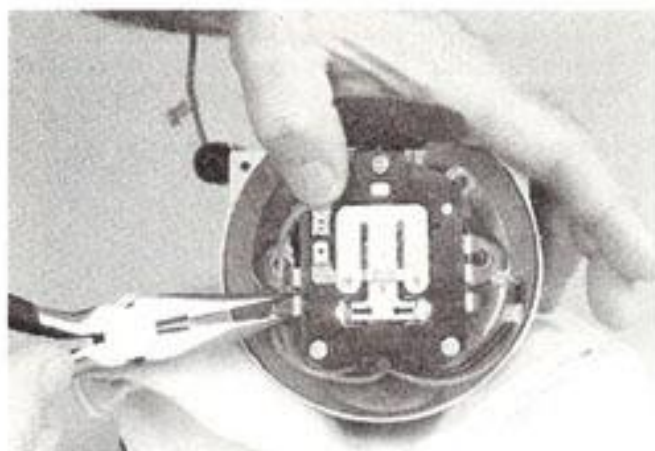
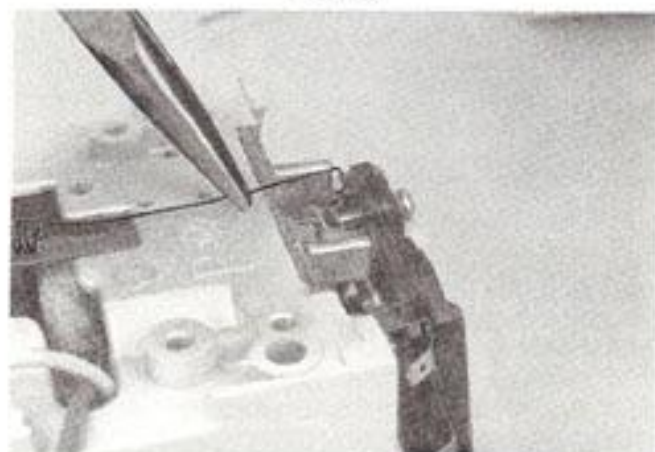
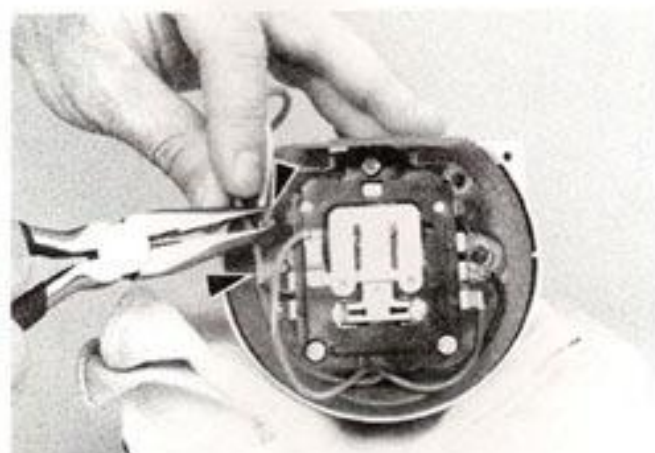
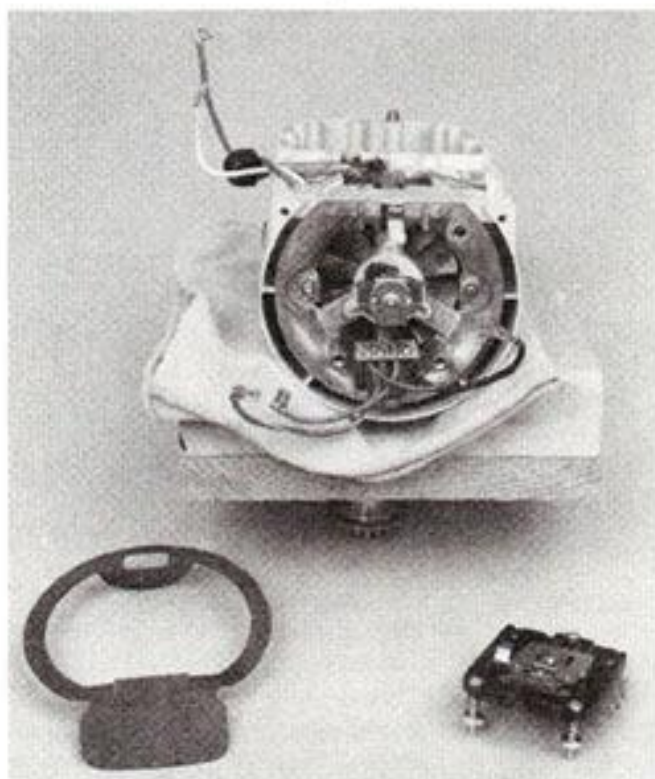

Fig. 16
Fig. 17
Fig. 15
Fig. 18
- A. Start disassembly of the control unit by removing the flag terminals from the stator (Fig. 15). Remove the end seal and disconnect the terminals from the phase control (Fig. 16). Unhook the control board spring at the bottom of the control board (Fig. 17). Unlock the two lock nuts on the control board and unscrew the two adjusting screws. The control board can now be removed (Fig. 18).